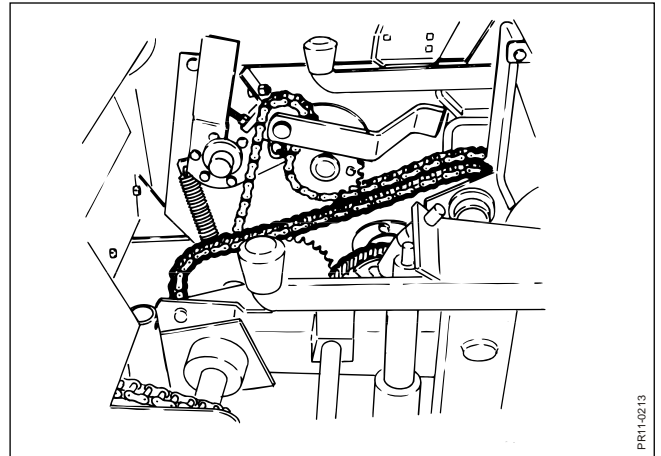

Fig. 3.12
- Fig. 3.12** Mount the chain drive for the maize unit.